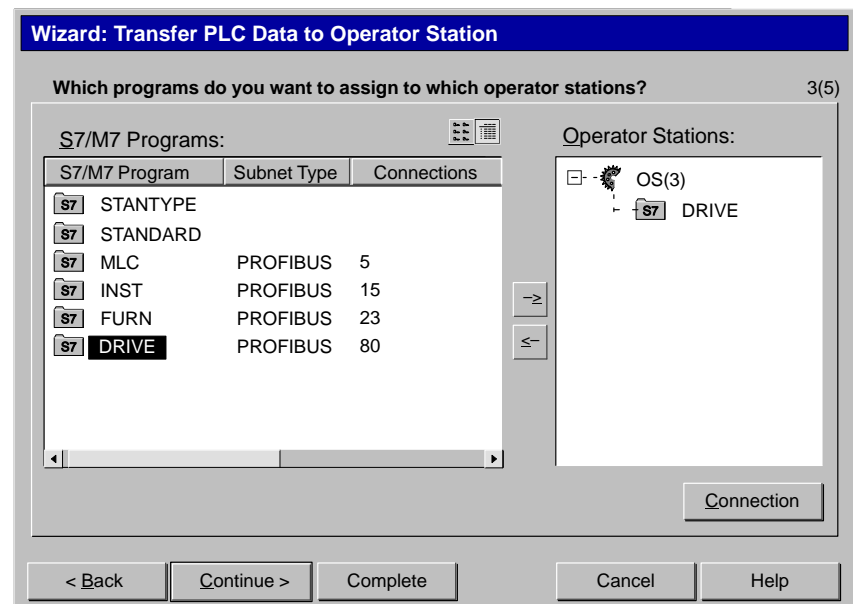

Figure 13-6 Assigning Programs to the Operator Stations
4. Click the “Continue” button and open page 3/5. Select the assignment of the programs to the operator stations here as shown in the example in Figure 13-6.